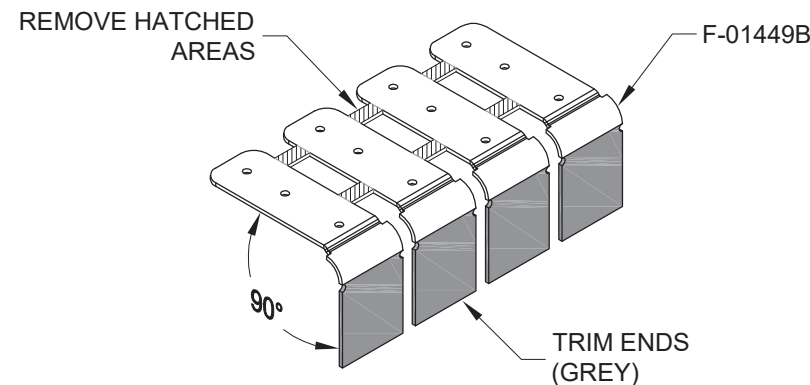

FIGURE 2: HINGE COVERS
Step 8: Separate the F-01449B Hinge Covers as shown in Figure 2. Do not trim the ends yet.
Step 9: Use finger pressure as necessary to adjust the bend angle of the hinge covers to 90°. See Figure 2.
Step 10: Trim the ends of the hinge covers as shown in Figure 2, then lightly deburr them. Do not reduce the overall width of the parts when deburring.